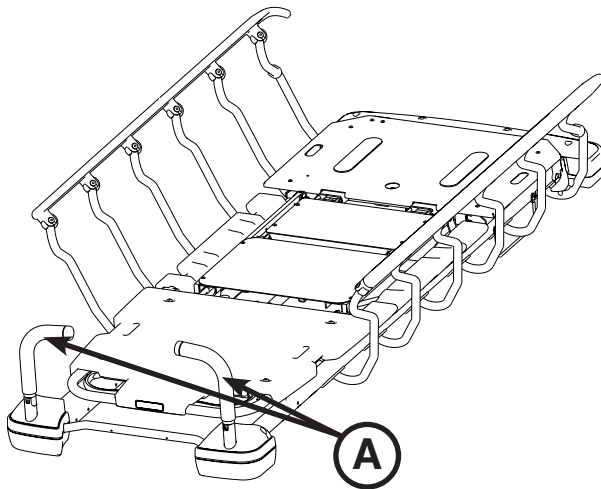

Figure 9.1: Push Handles Open
To use the push handles, pivot the handles (A) up and push down until they are locked into position (Figure 9.1).